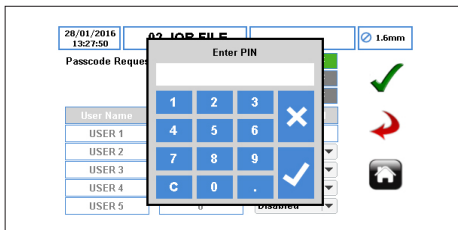

Figure 46 Passcodes Request ON
1. **PASSCODE REQUEST** – enables the access control settings. When selected ON, an ADMIN passcode must be set. A keypad will appear as per *Figure 46*. If it is selected OFF, all access control will be disabled.